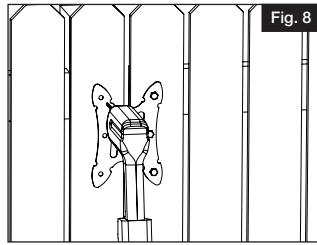

Fig. 8
- d. Drill 7/32" pilot holes on post (Fig. 8).